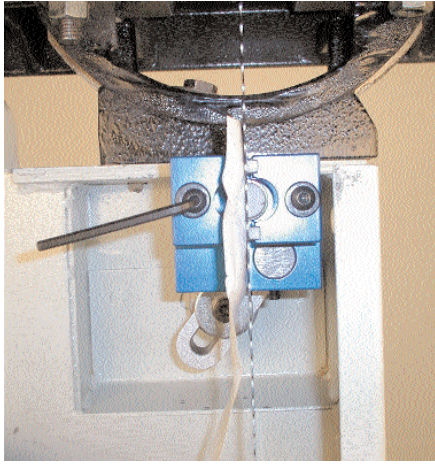

Fig. 18
4. We are now ready to adjust the guide to the blade. Rotating the blade by hand ensures that it is tracking consistently in the correct position. Loosen the side guide blocks. Loosen the clamp on the shaft, and then move the guide assembly forward until the ceramic block is just behind the gullet of the band-saw blade. Place a dollar bill or a piece of similar thickness paper between the guide block and the blade. Gently bring both side guide blocks towards the blade so that slight pressure is exerted on the blade. Tighten the clamp screws and remove the paper. Rotate the blade by hand to ensure that the weld of the blade does not hit the ceramic blocks as this will cause damage. If damage occurs, then the blade will need to be returned to your blade supplier. See Fig. 18.